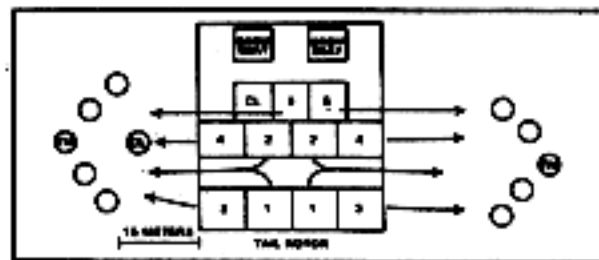

Figure B-13. UH-60 Unloading Diagram
(1) Unloading. Unloading of the aircraft does not begin until directed by the crew chief or pilot (Figure B-13).